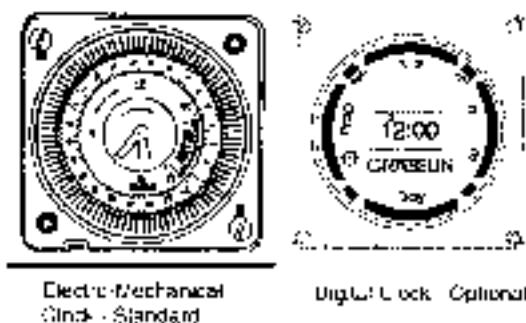

Figure 1.5 Front Panel Mounted Clock Options for BoilerMate III
6. Electric-mechanical clock (Figure 1.5) to control the space heating (in conjunction with room thermostat if fitted).
- A seven-day digital clock/programmer (Figure 1.5) to control the space heating (in conjunction with a room thermostat if fitted);
- A kit to site the clock/programmers shown in Figure 1.5 remotely;